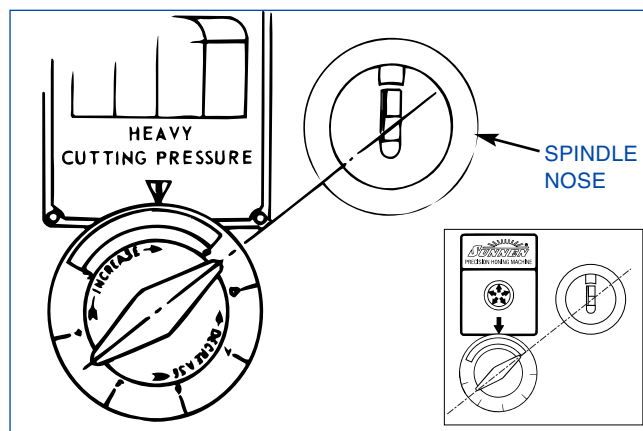

FIGURE 4-7, Heavy Cutting Pressure Control
7. Continue rotating Heavy Cutting Pressure Control until handle is in line with spindle centerline (see Figure 4-7). Honing dial needle should move past zero to the red line.